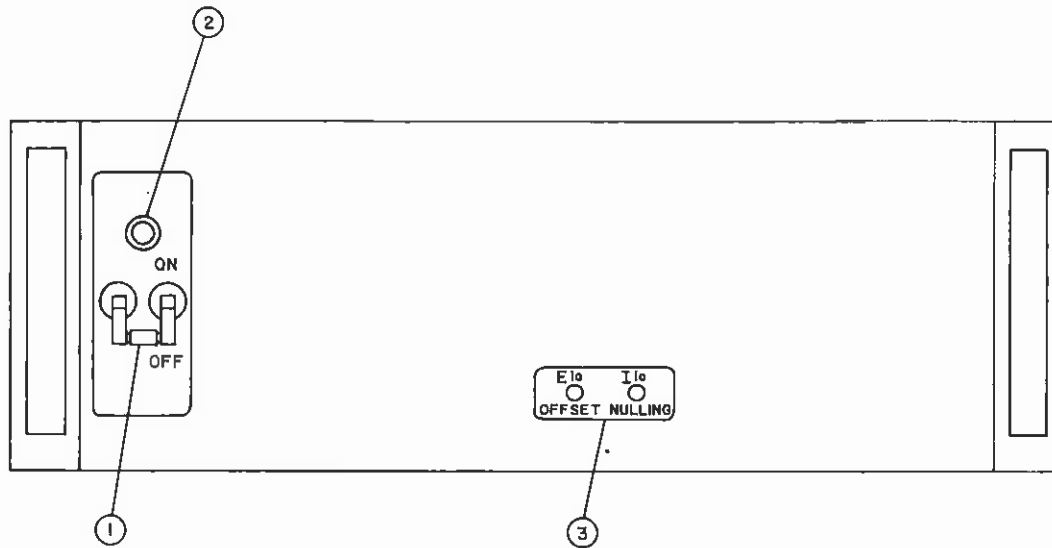

FIG. 2-1 FRONT TERMINALS AND CONTROLS.
a) FRONT PANEL: Refer to FIG. 2-1 and Table 2-1.
2-18 A simple electrical checkout after unpacking and before permanent installation is advisable to ascertain whether the instrument has suffered damage during shipment. Refer to FIGS. 2-1, 2-2 and Tables 2-1, 2-2 for the identification and location of all controls and terminations. The nomenclature used will be followed throughout this manual. Controls and terminations pertaining to the BOP will be capitalized throughout the text.